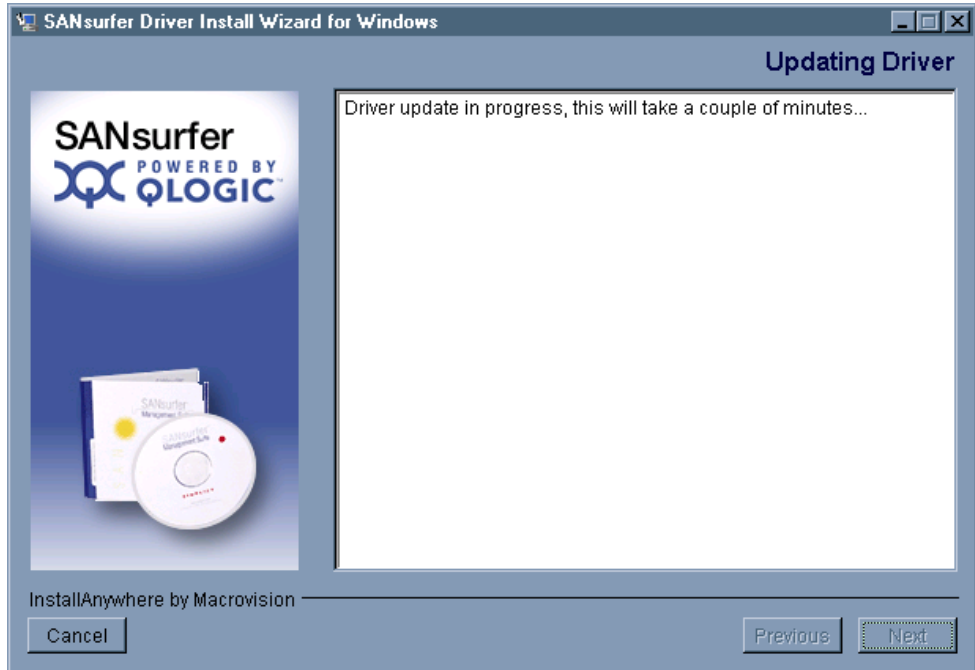

Figure 60 Updating Driver dialog box
- The wizard displays a summary screen, as shown in Figure 60, describing the actions it will take during the driver installation and the version of driver to be installed. Note that the server may require a reboot after the driver load. Click **Next** to start the installation.